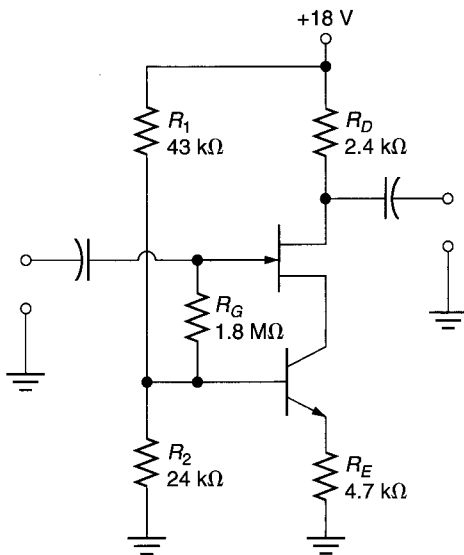

FIGURE 12.75
49. The biasing circuit shown in Figure 12.75 is a *current-source bias* circuit. Determine how this circuit obtains a stable value of  $I_D$ .